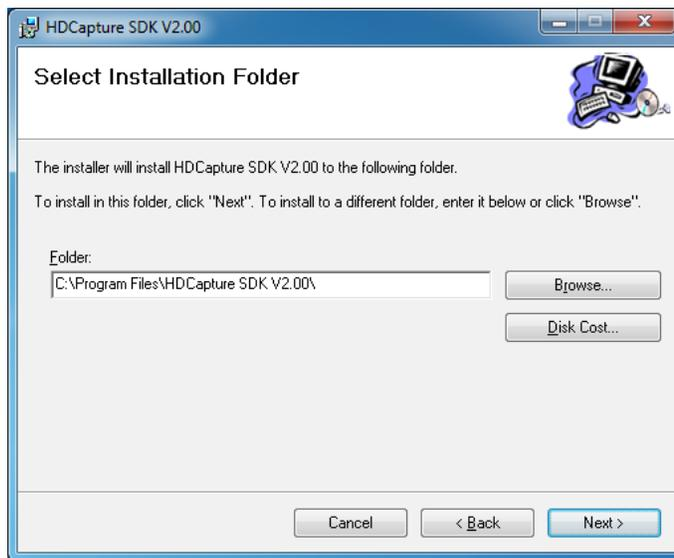

Figure 1-10: Select Installation Folder
Step 4: Select a folder for HDCapture installation in **Figure 1-10**. Click **Next** to continue.